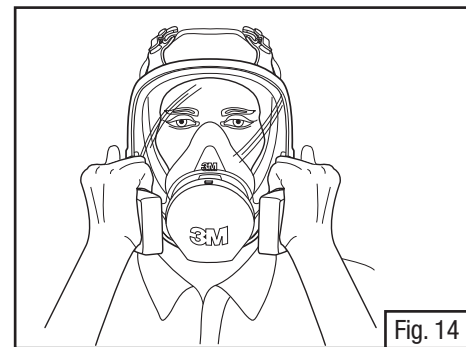

Fig. 14
1. Using hands press or squeeze filter covers toward facepiece and inhale gently. If you feel the facepiece collapse slightly and pull closer to your face with no leaks between the face and facepiece a proper seal has been obtained (Fig. 14).